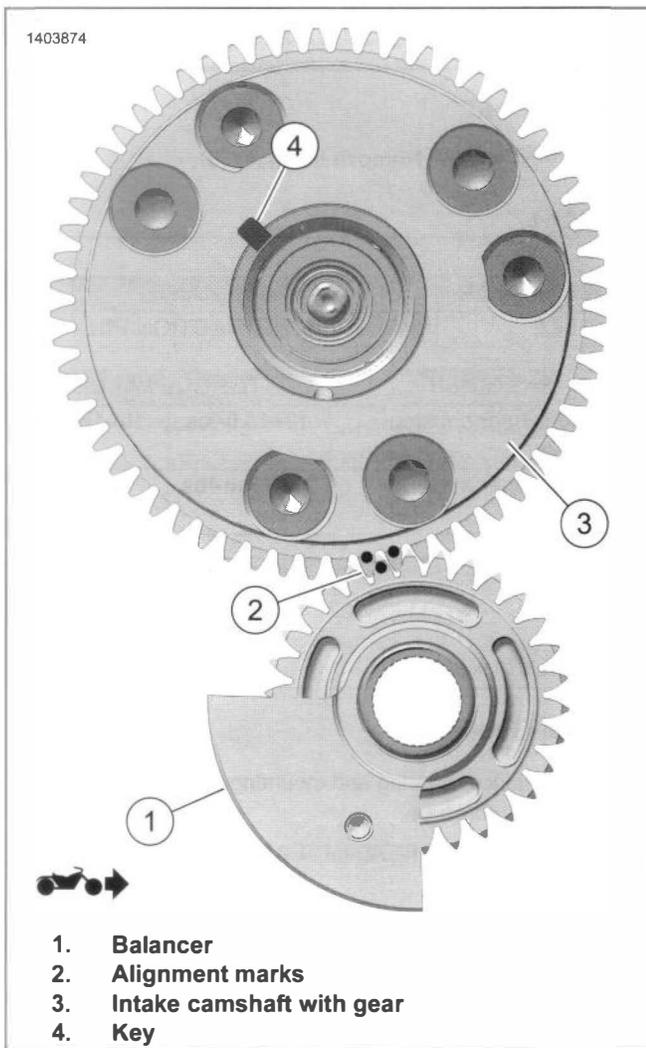

Figure 4-34. Balance Gear Alignments Marks (Front Cylinder Head Only)
- See Figure 4-34. If camshaft is installed, use the alignment marks to position the balancer gear.